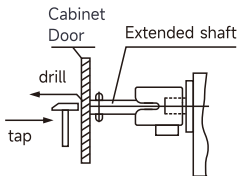

Figure 35
(4) As shown in Figure 35: Use a hammer to lightly tap the contact point between the cabinet door and the top of the extension shaft from the outside of the cabinet to determine the drilling center, and drill holes $\Phi 6$ from the inside of the cabinet door out at the drilling center, and enlarging hole $\Phi 63$.